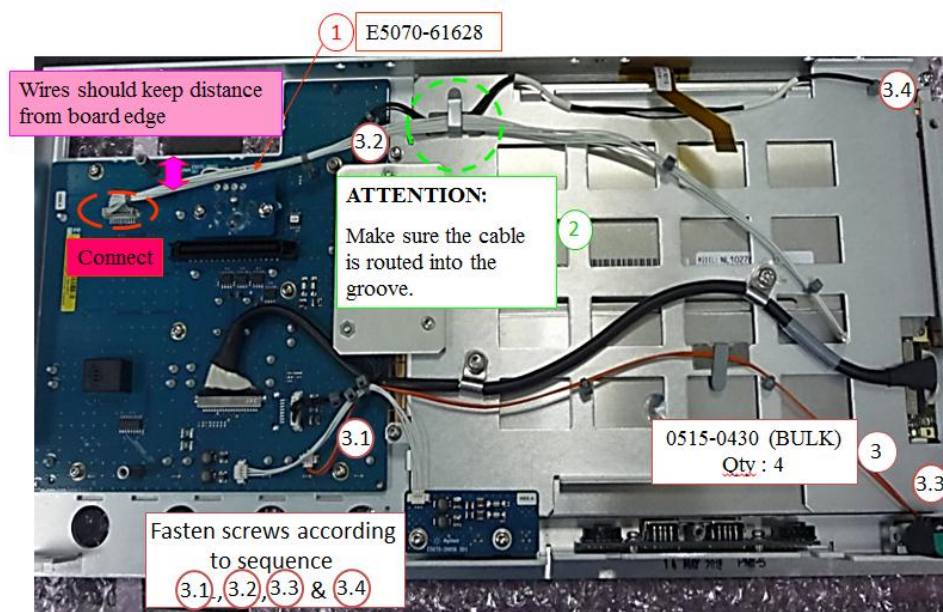

Figure 2-7
6. Install the LCD T/P Display Assembly onto the LCD Front Panel. Fasten the screws according to the following sequence. Connect all cable assemblies as shown in figure 2-7.